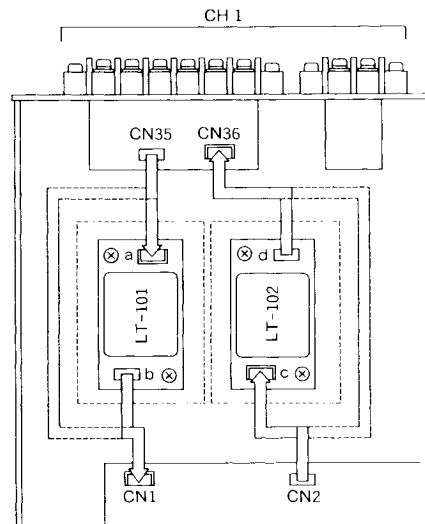

Fig.1
3. For input conversion, first fix two sleeves (supplied with the transformer) to the left-hand side, as viewed from the front, by tightening two screws from the outside of a bottom chassis, and then place the input transformer on the sleeves and fix it using two screws. See Fig. 1. After installing the transformer, detach connector CN35 from CN1, reconnect it to connector (a) at the transformer side, and connect connector (b) coming from the transformer to CN1, as shown in the figure.